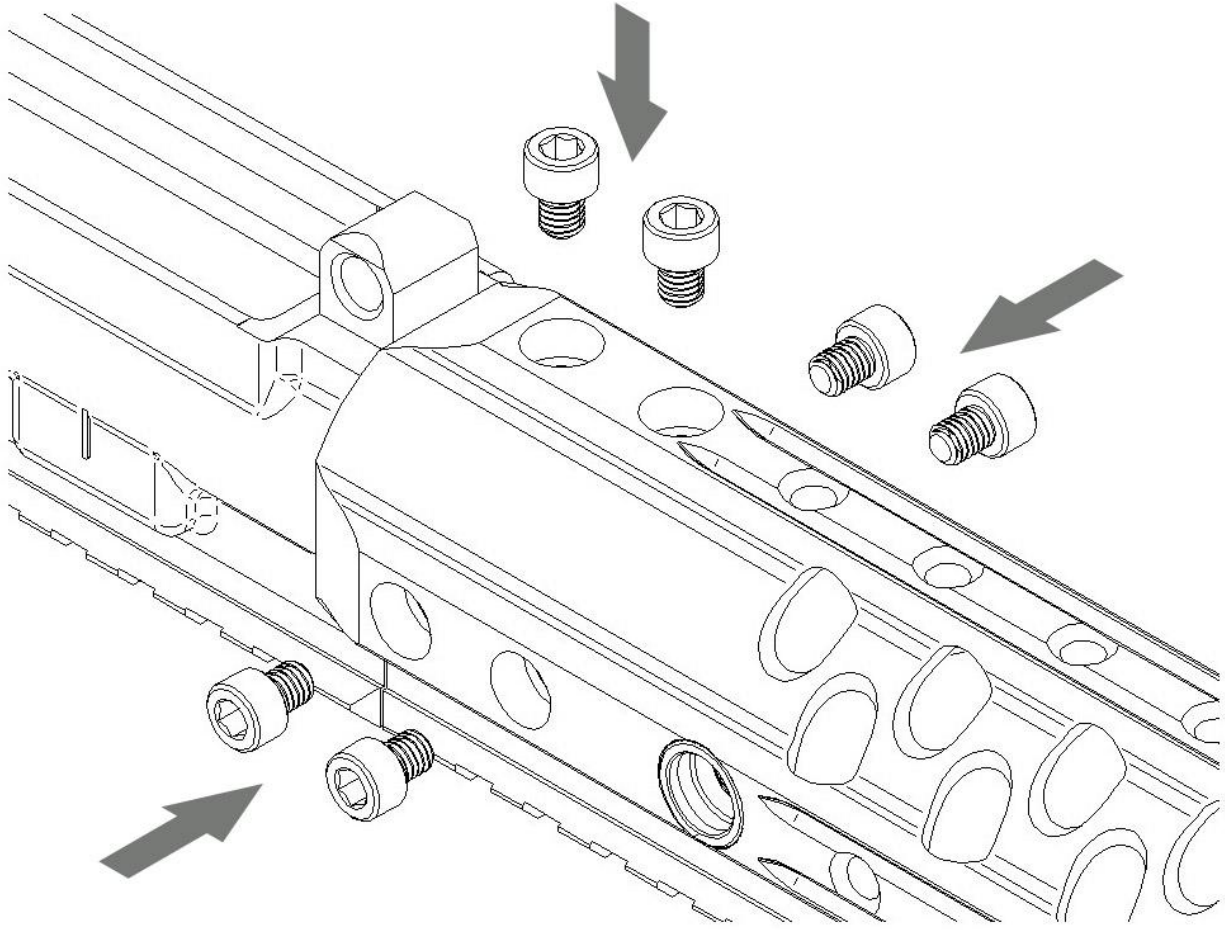

Fig. 1d
5. Slide the T.R.I.M. rail over the barrel and onto the barrel attachment nut. Add a light coating of oil to the bottom of each hole in the T.R.I.M. rail where the screws pass through. Thread each of the six rail screws into their holes in the T.R.I.M. rail. (fig 1d) NOTE: Do not torque screws yet.